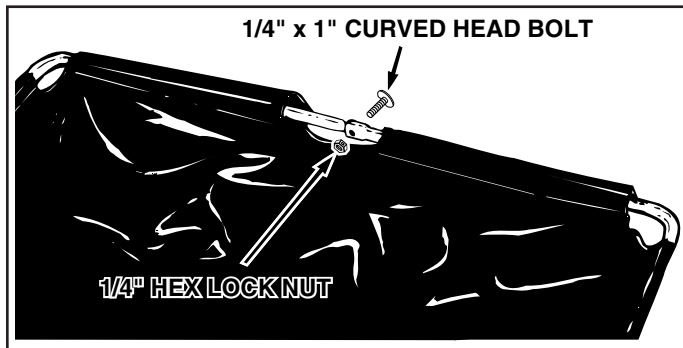

FIGURE 9
3. Fasten the upper hopper tubes together using a 1/4" x 1" curved head bolt and a 1/4" hex lock nut. See figure 9.